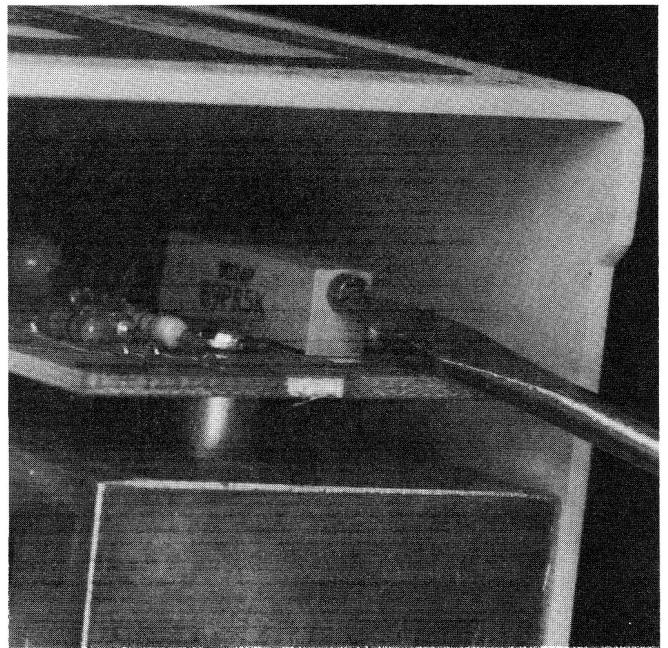

Fig. 8-20. The screw driver is inserted in the speed adjustment potentiometer.
10. Locate the speed adjustment control potentiometer as shown in Fig. 8-20.